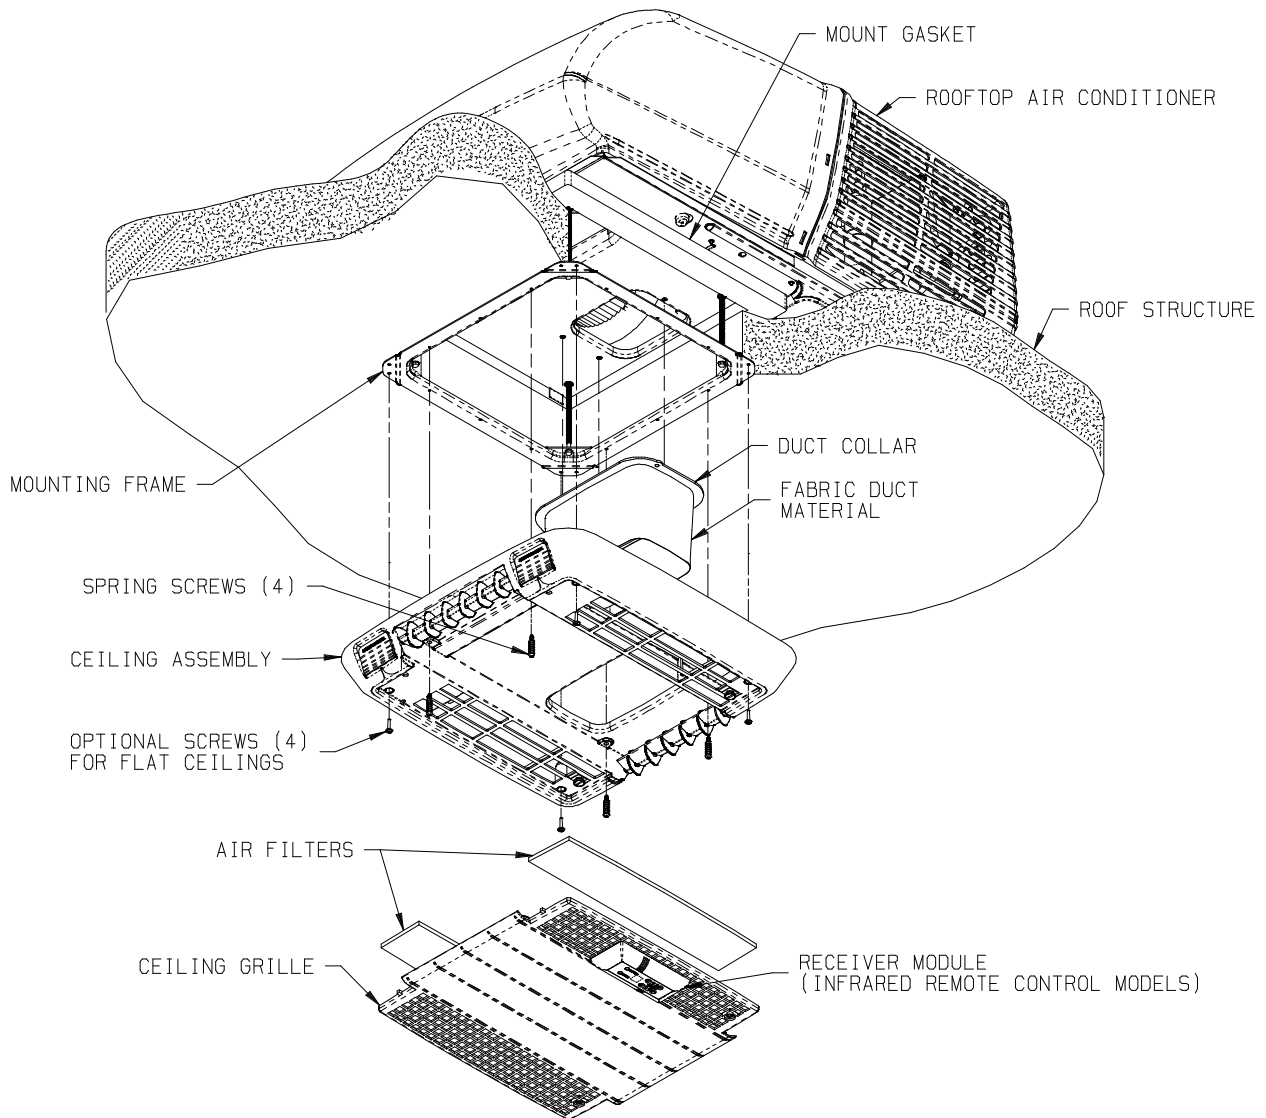

FIGURE 8
- A. Fasten the duct collar to the basepan of the air conditioner with three (3) screws (See Figure 8).
- B. Raise the ceiling assembly and secure to the mounting frame with four (4) provided shoulder screw/spring assemblies (See Figure 8).
- C. The ceiling assembly shroud is curved to contour to a crowned ceiling. If installation is to a flat ceiling and gaps are present on the sides of the shroud, insert the four optional 3/4 inch screws (provided) through the mounting posts and secure them to the mounting frame above. See Figure 8 for screw locations.